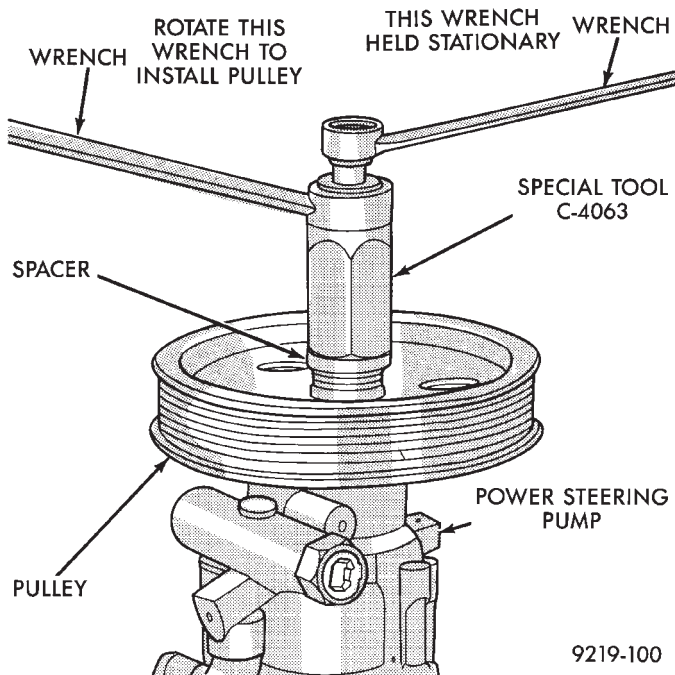

Fig. 6 Installing Power Steering Pump Pulley
(3) Insert the Pulley Installer, Special Tool C-4063, (without adapters) through hole in spacer. Then thread it into the end of the power steering pump shaft (Fig. 6). Tighten the installer into shaft.
(4) Hold the Pulley Installer with one wrench so it will not rotate. Turn hex (Fig. 6) down threaded rod of installer pushing the pulley onto the shaft of the power steering pump (Fig. 6). Ensure that the tool and the pulley remain aligned with the pump shaft so pulley does not become cocked on shaft.